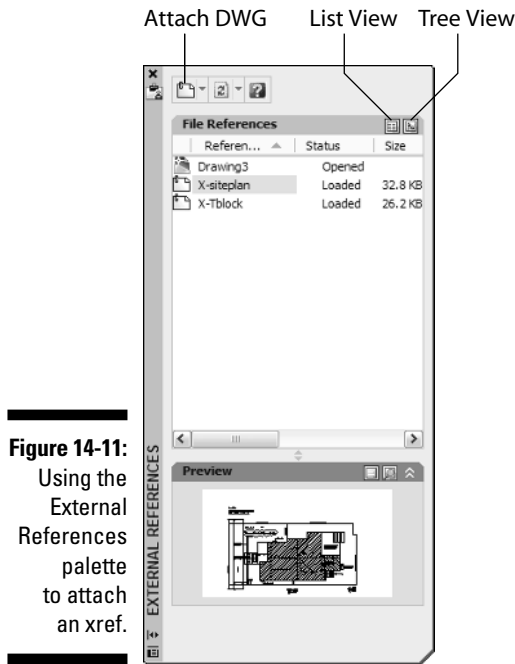

Figure 14-11:
- 3. Click Attach DWG (see Figure 14-11) and locate the drawing file you want to attach.**
- ✓ **List of external references:** You can change between a List and a Tree view of your drawing's external references just by clicking the appropriate button at the top of the palette (see Figure 14-11). You also can resize the columns by dragging the column dividers or re-sort the list by clicking the column header names, just as in other Windows dialog boxes.